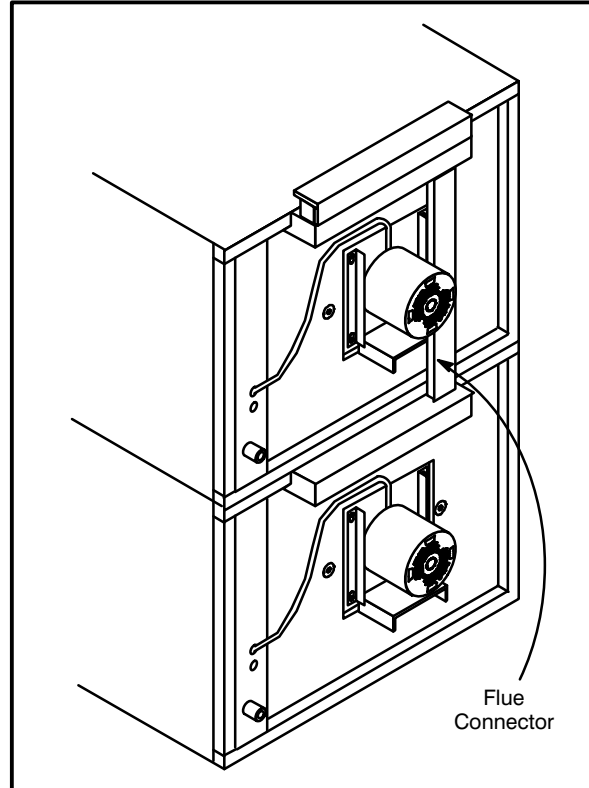

Figure 6
5. Attach the flue connector. See Figure 6.